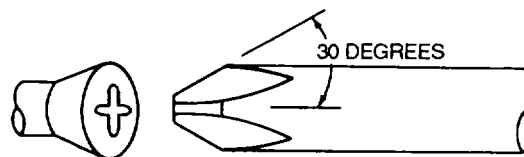

Figure 4-14. Phillips Screwdriver
(2) *Phillips screwdriver.* The Phillips screwdriver has a blunt cross tip. The tip is ground to a 30-degree angle, as shown in figure 4-14.